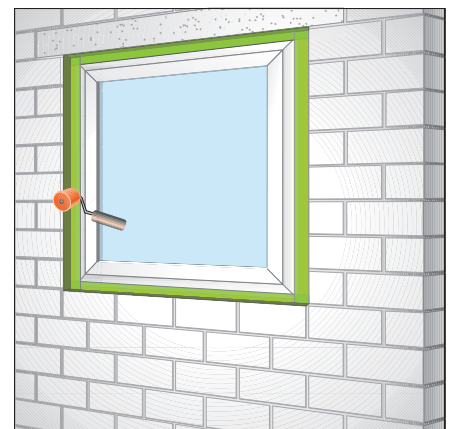

Fig 3: Consolidate the butyl bond using a roller
- Consolidate the bond using a seam roller as fig 3.